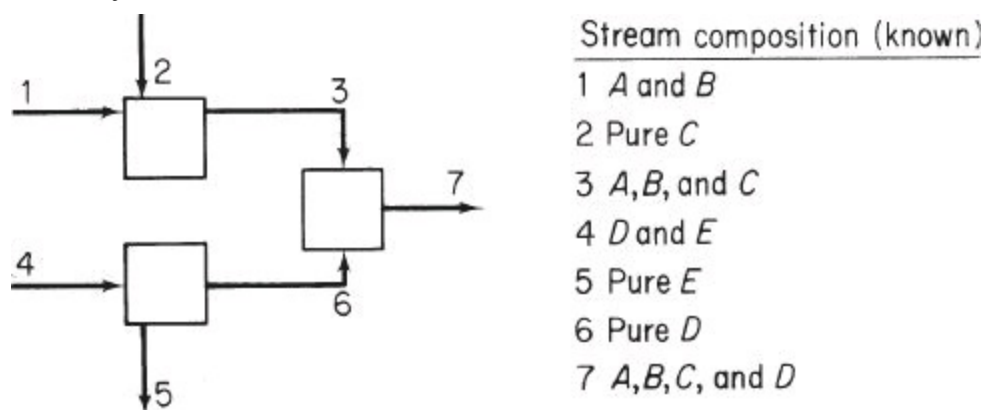

Figure P6.1.3
****6.1.3.** What is the maximum number of independent material balances that can be written for the process in Figure P6.1.3? The stream flows are unknown. Suppose you find out that *A* and *B* are always combined in each of the streams in the same ratio. How many independent equations could you write?